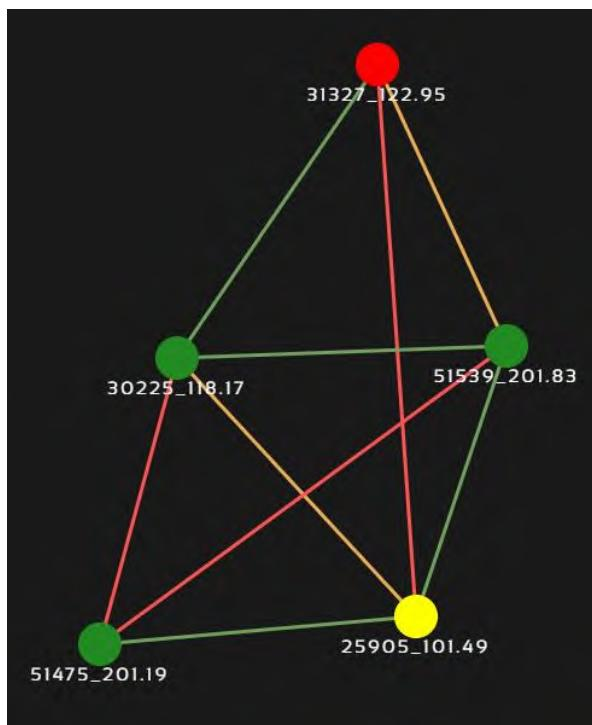

Figure 42 Example Network Topology
- **Color Coded Link Health** – Color coding of each link in the network allows the user to quickly identify the weak links within a network. A link between two nodes will transition from green to yellow to red as the link weakens while also displaying the SNR of the link. This can be seen in Figure 42 Example Network Topology.
- **Route Health** – The Silvus StreamScape Utility will alert the user when too many packets are being routed through a single node. In such cases, a node will change from green to yellow to red as the packet queue increases (see ‘31327_122.95’ and ‘25905_101.49’ in Figure 42 Example Network Topology). This will allow the user to recognize the issue and configure the network accordingly. Table below also shows the values for each scenario.